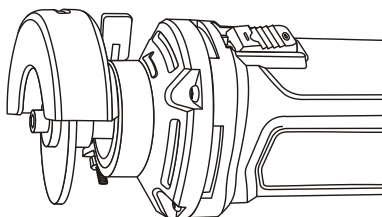

Fig. 2
3. When the guard clamp is fully slid onto the guard mount, rotate the guard 180° so it is positioned at the top of the tool (Fig. 2).